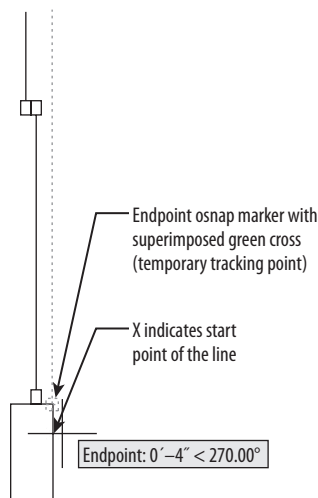

FIGURE 5.5: Pause the cursor over the endpoint to select the reference point.
6. Move the cursor directly downward, and you will see an X appear at the cursor, directly below the reference point (see Figure 5.5).